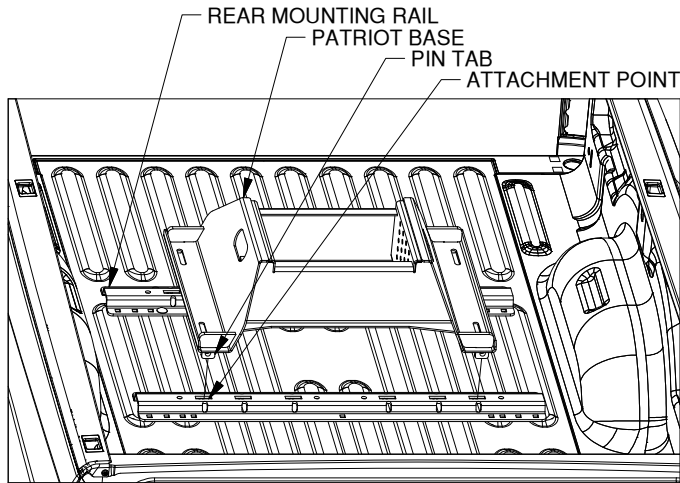

Figure C1: View into truck bed looking towards tailgate.
- 1. Position the forward mounting rail.** For this step the base which will be used in the mounting rails is required. Place a mounting rail into the truck bed in front of the rear mounting rail. Place the base over the rail attachment points and carefully lower it until the pin tabs pass through the attachment points on the rear mounting rail. Attach the forward mounting rail to the forward mounting points on the base. The base should rest flat against the top of the rails. See figure C1. With the base still attached ensure that the forward rail is centered in the truck bed.